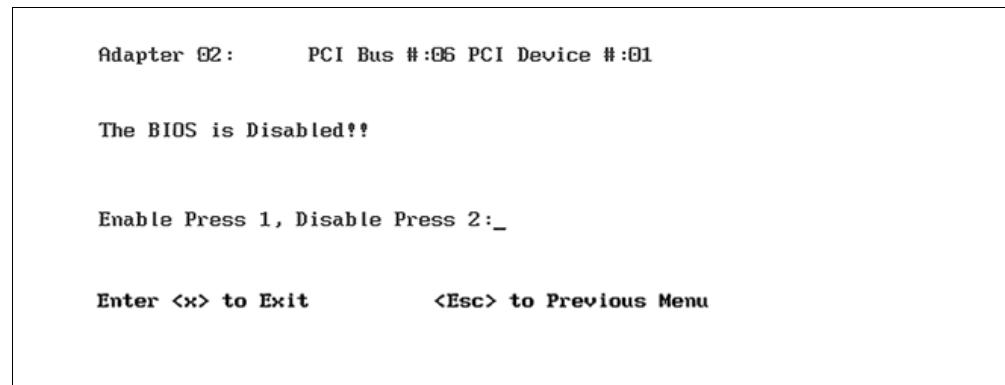

Figure 18-11 Enable/disable BIOS panel
5. This panel shows the BIOS disabled. Select **1** to enable the BIOS as shown in Figure 18-11.